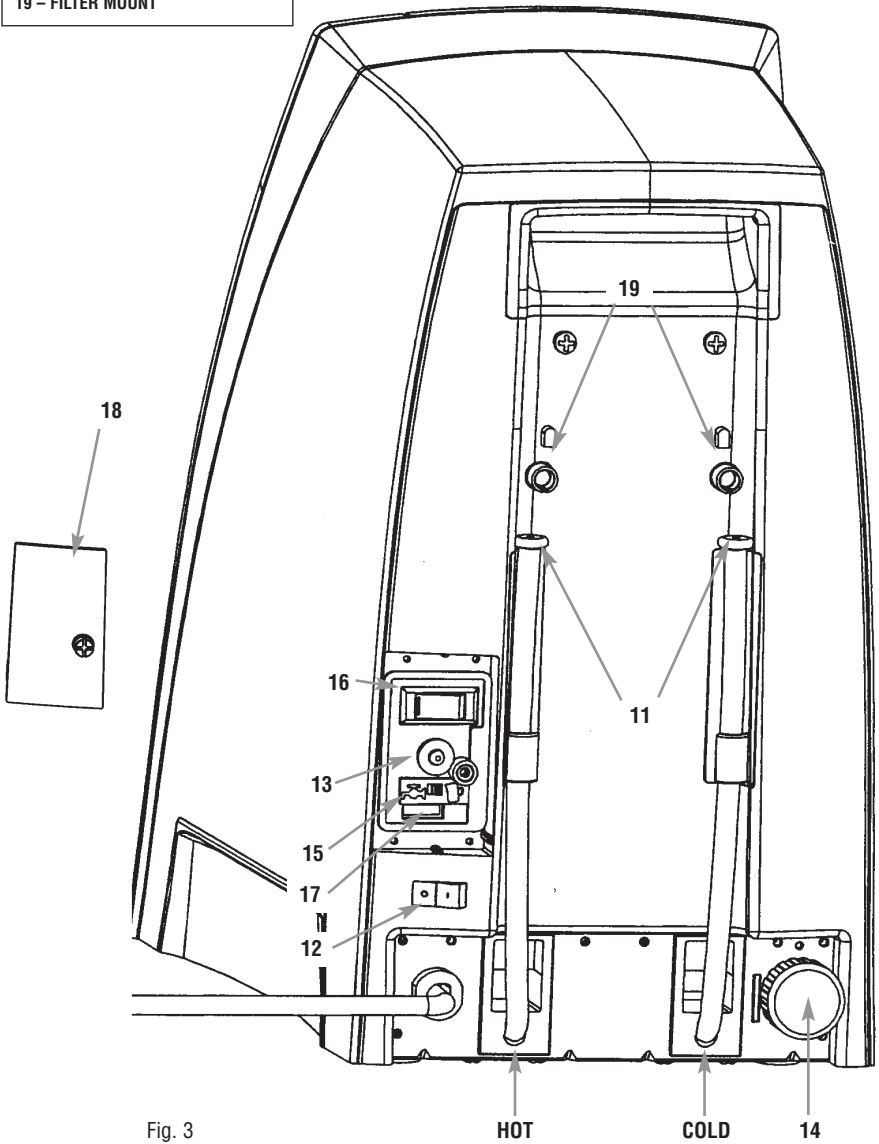

Fig. 3
1. An external filter (KQ8A) can be mounted on the rear surface of the brewer using the mounting screws provided (Item 19, FIG.3)